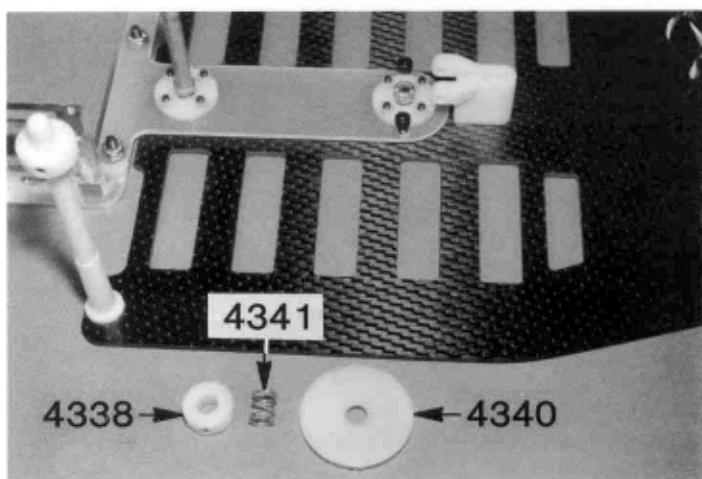

Fig. 33
□ **Figs. 33 & 34**— From Bag #6, slide the #4340 dampner washer, #4341 spring and #4338 collar with set screw onto the aluminum tube. The collar goes on first, then the spring and then the dampner washer with the smooth, flat side up. Mount it low; later we'll adjust it.